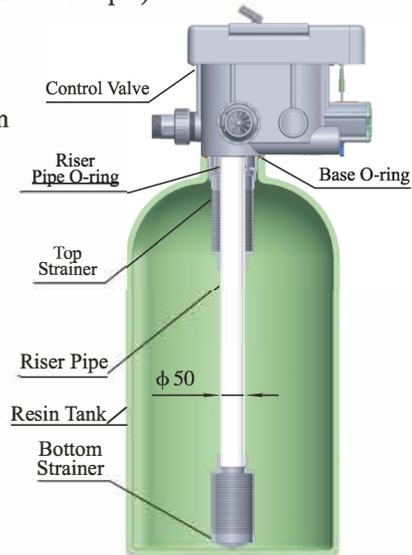

Figure 1-1
- ①The filter or softener should be located close to drain.
- ②Ensure the unit is installed in enough space for operating and maintenance.
- ③Brine tank need to be close to softener.
- ④The unit should be kept away from the heater, and not be exposed to outdoor. Sunshine or rain will cause the system damage.
- ⑤Please avoid installing the system in the Acid/Alkaline, Magnetic or strong vibration circumstance, because above factors will cause the system disorder.
- ⑥Do not install the filter or softener, drain pipeline in circumstance which temperature may drop below 5°C, or above 50°C.
- ⑦Install the system in the place where with the minimum loss in case of water leaking.
① Install control valve
a. As the Figure 1-1 shows, select the riser pipe with 50mm OD, glue the riser pipe to the bottom strainer and put it into the resin tank, cut off the exceeding tube out of tank top opening and rounding. Plug the riser tube in case of resin entering.